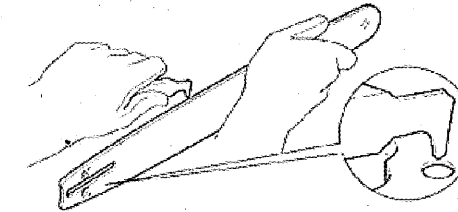

Fig. 45
4. Clear residue from the rails on the guide bar (8) using a screwdriver, putty knife, wire brush or other similar tool. This will keep the oil passages open to provide proper lubrication to the guide bar (8) and saw chain (7) (Fig. 45).